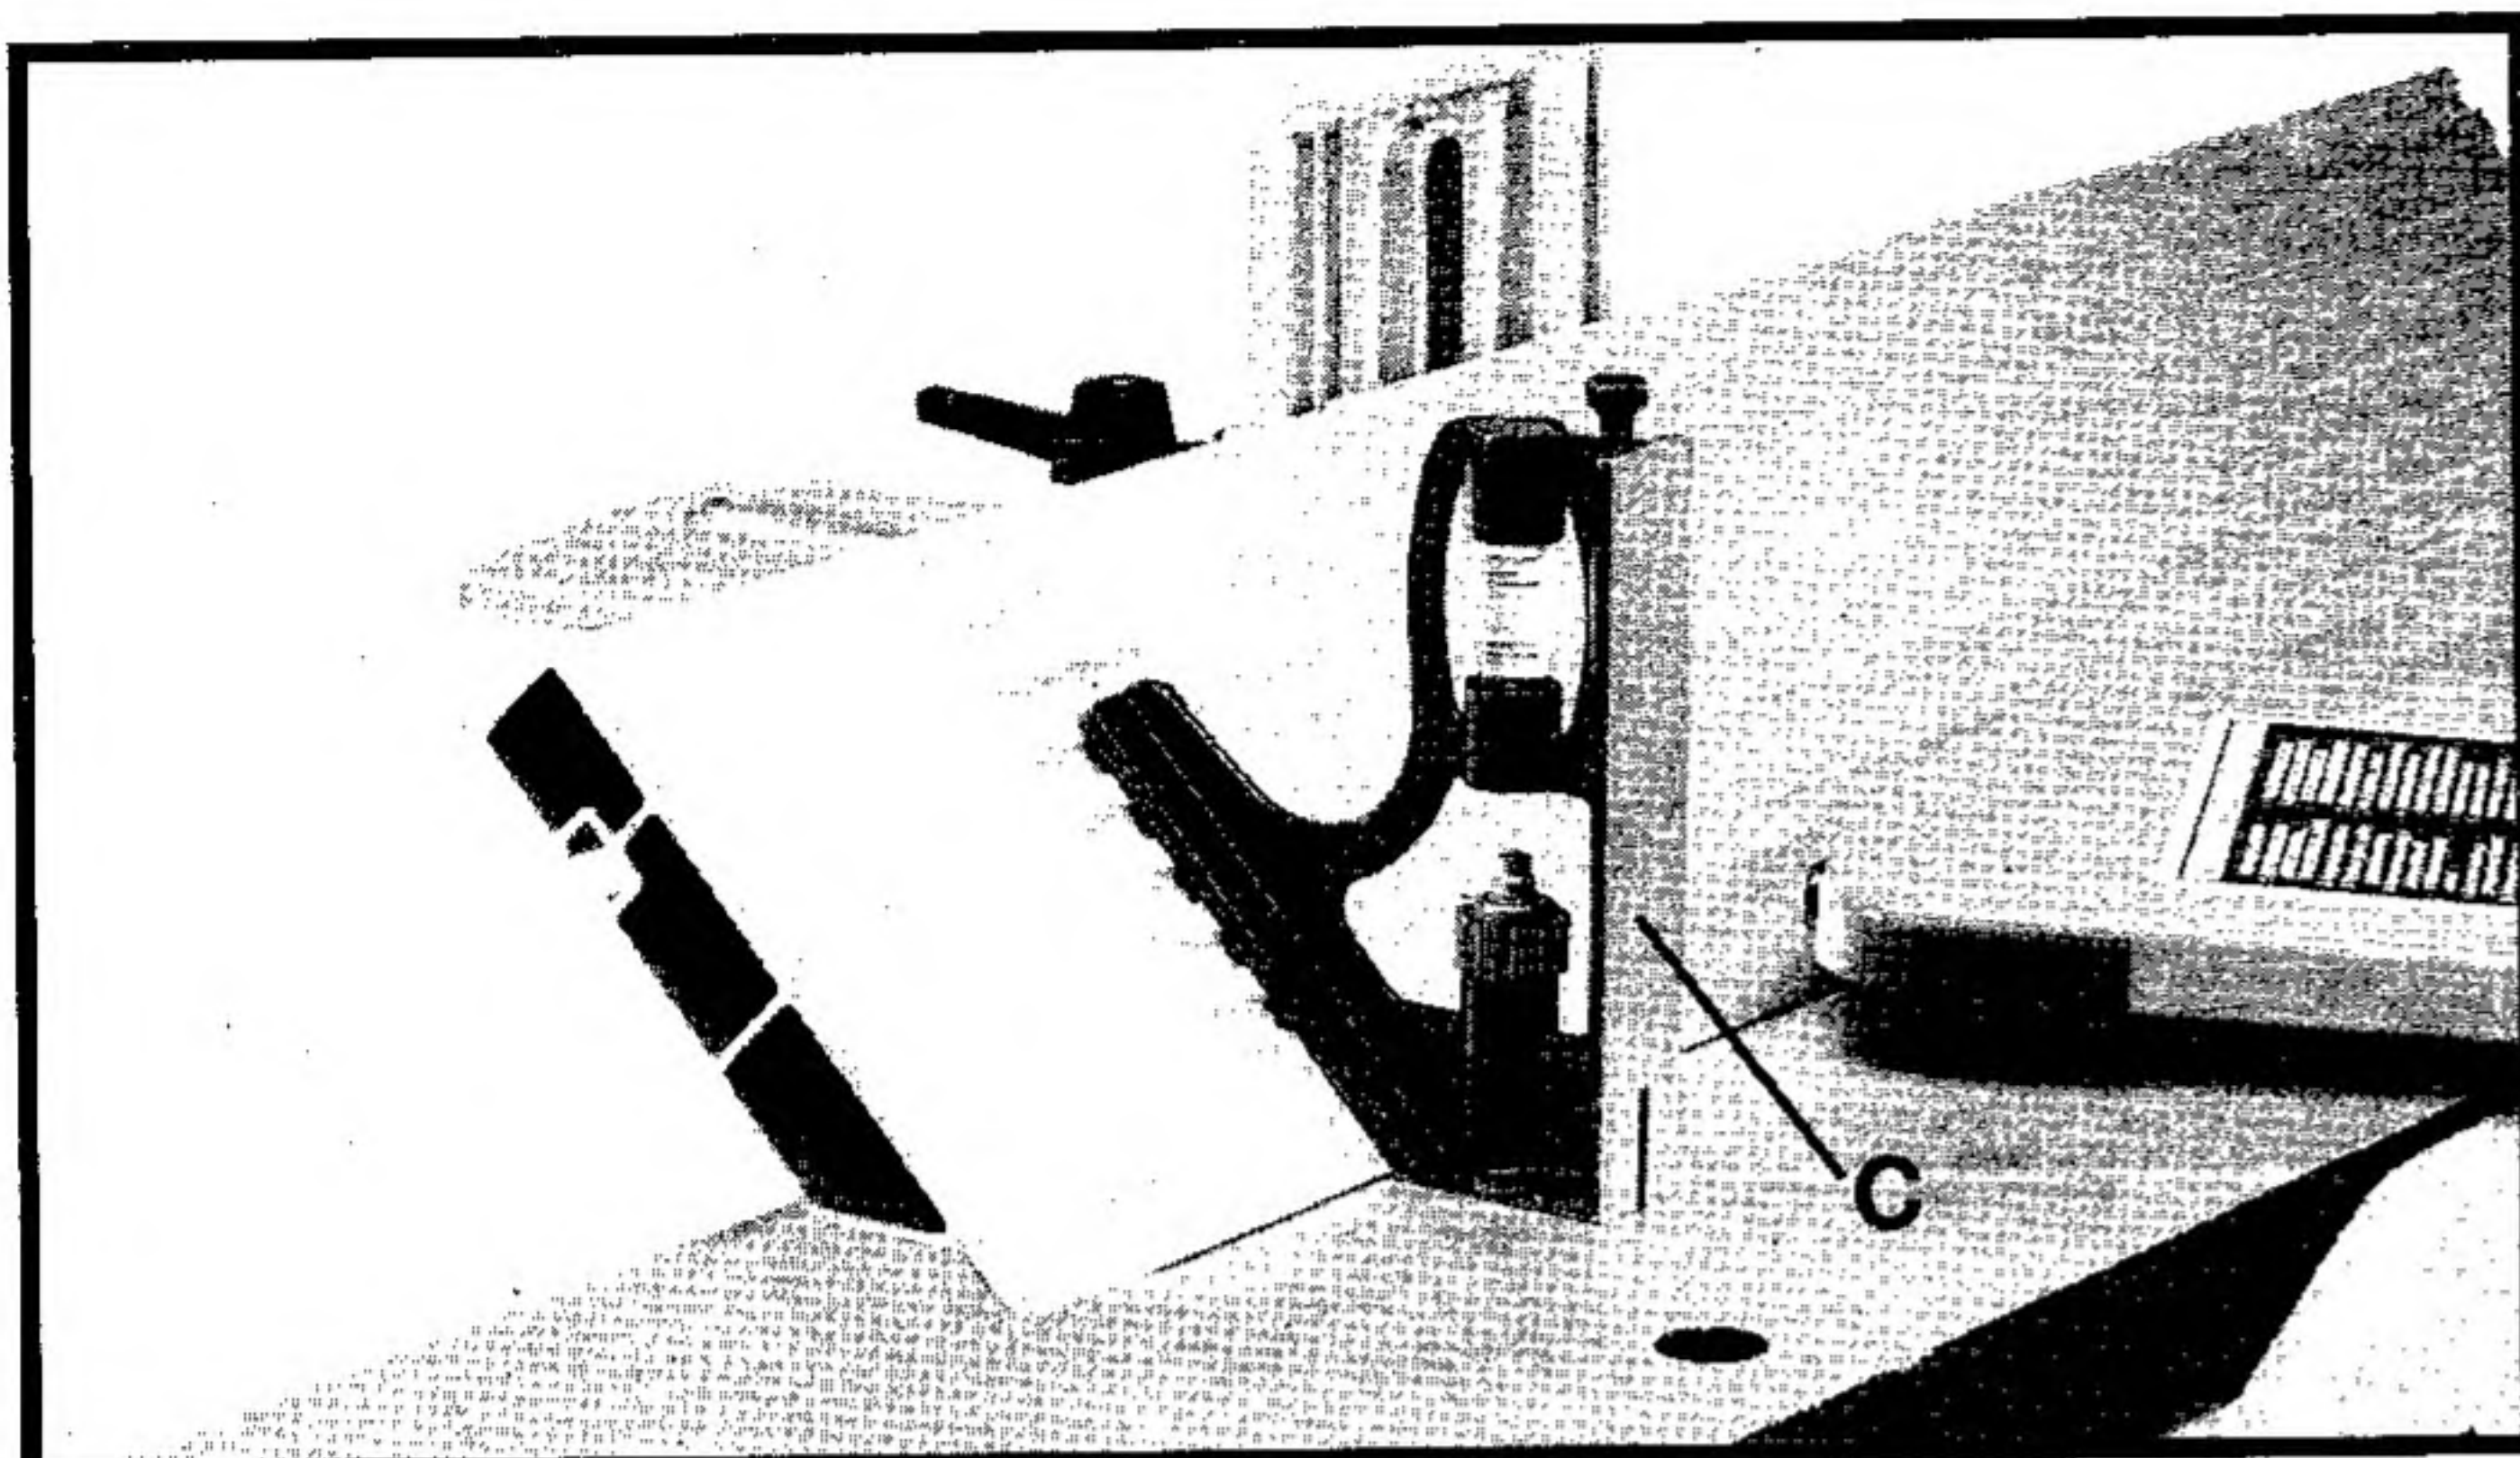

Fig. 28
6. Using a square (C) Fig. 28, tilt the table to the 45 degree position and make sure the fence is 45 degrees to the table. Adjust the fence if necessary.